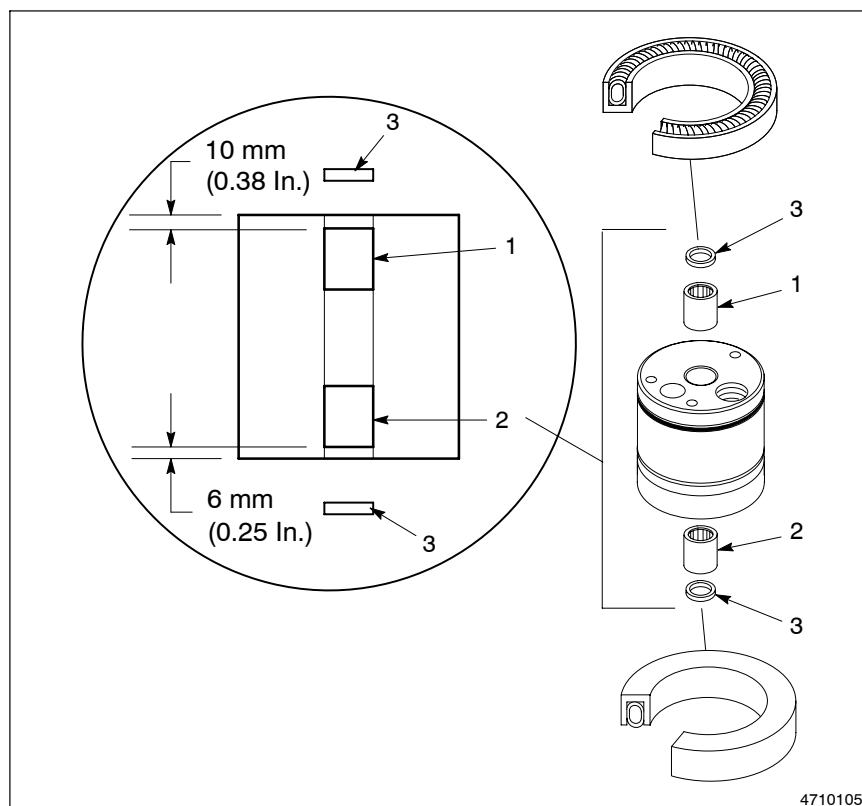

Fig. 7-28 Installing the Open Needle Bearings, Shaft Seals, and Retaining Ring
1. See Figure 7-28. Coat the interior and exterior of the new open needle bearings (1, 2) with high temperature grease.
4. Apply a light coating of high temperature grease to both of the new shaft seals (3). Install one shaft seal into the top of the pump body with the exposed spring facing out. Install the other shaft seal into the bottom with the exposed spring facing out.